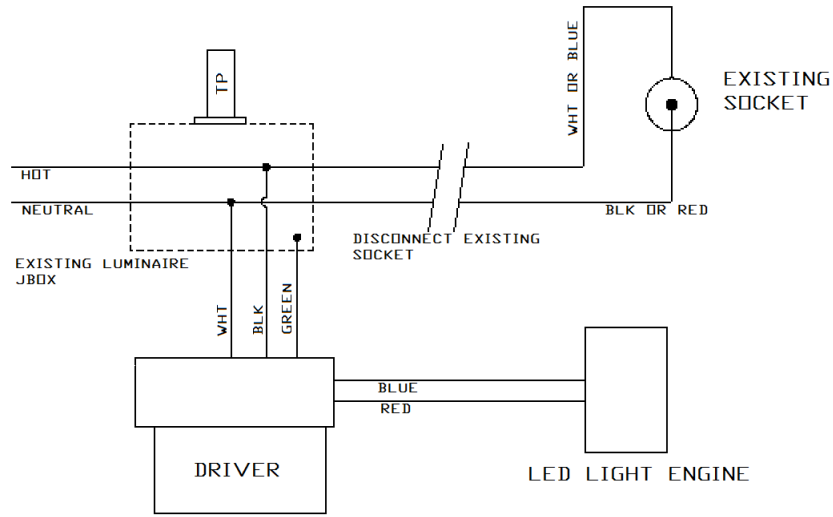
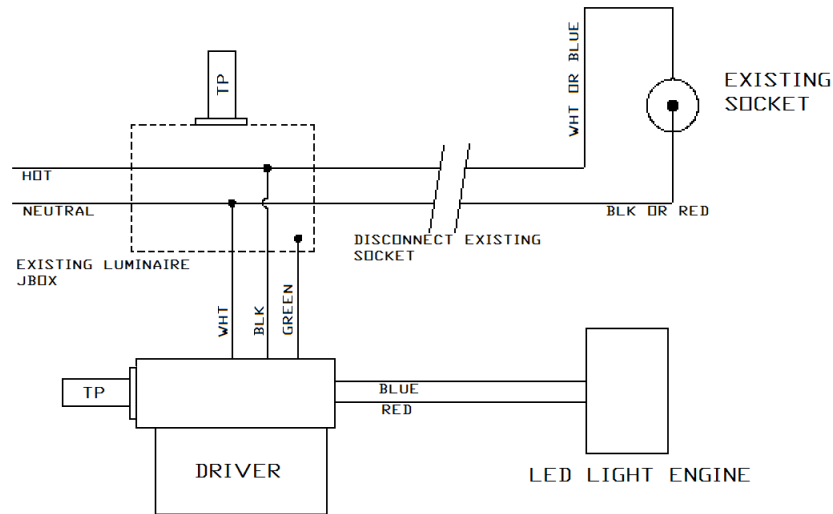
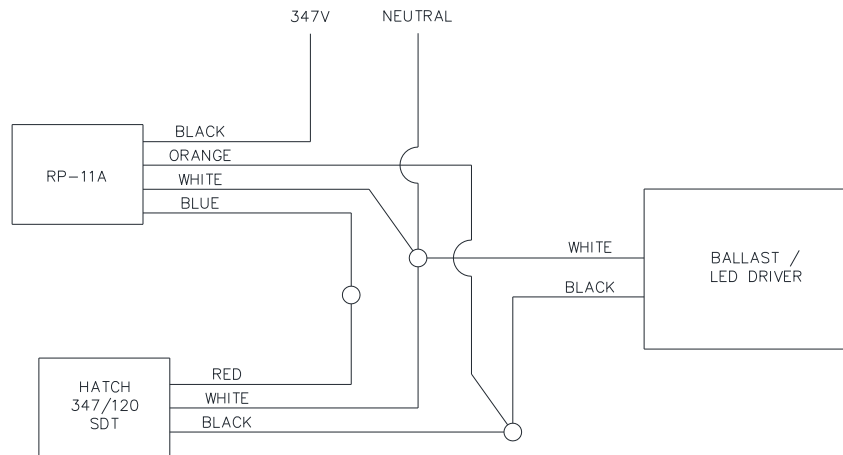

Figure 6
Figure 7
Figure 8
5. Remove inner junction box door and disconnect power supply. Remove outer junction box door and discard. Pass LED retro-fit driver assembly through aperture snapping new LED driver assembly to outside of junction box as shown in Figure 5. Wiring per diagrams Figure 6 (4" / 6" MVOLT), Figure 7 (8" 120V or 277V), or Figure 8 (347V). Snap on inner junction box door.
7. For 347V wiring see diagram below (Figure 8).